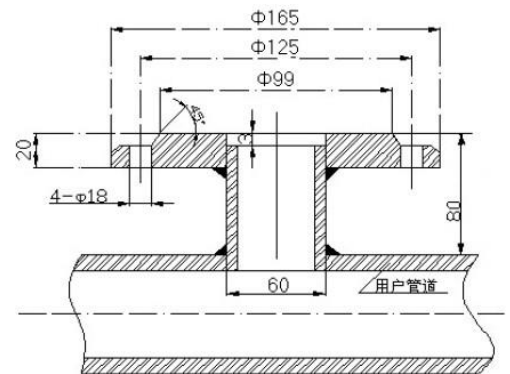

Figure 2
2.2.2 According to the Figure 2, DN50 ball valves should be installed on the mounting base. Note that the ball valve long cavity upward. Check if the ball valve can be full open and full closed. The screw seat, gland nut and rubber sealing should be installed on the ball valve. Loosen positioning bolt and gland nut, make sensor insert into measured pipe through ball valve. Insert depth refers to Figure 2, use vernier caliper or steel tape to measure, then tighten gland nut and positioning bolt.